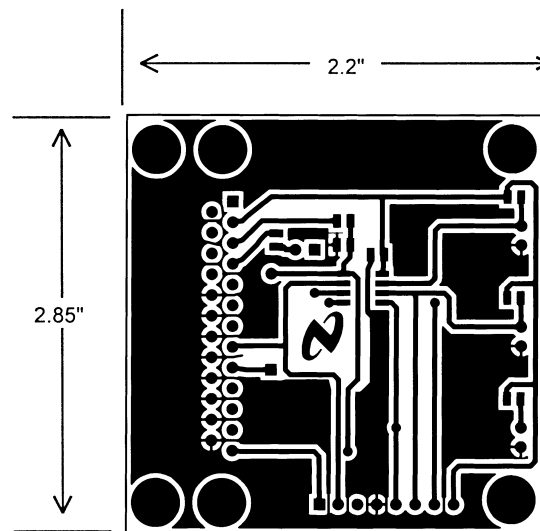

Figure 5. Printed Circuit Board Used for Thermal Resistance Specifications
- (1) Soldering process must comply with Texas Instruments Incorporated Reflow Temperature Profile specifications. Refer to
- (2) Reflow temperature profiles are different for lead-free and non-lead-free packages.
- (3) LM75 θ_{JA} (thermal resistance, junction-to-ambient) when attached to a printed circuit board with 2 oz. foil similar to the one shown in Figure 5 is summarized in the table below: